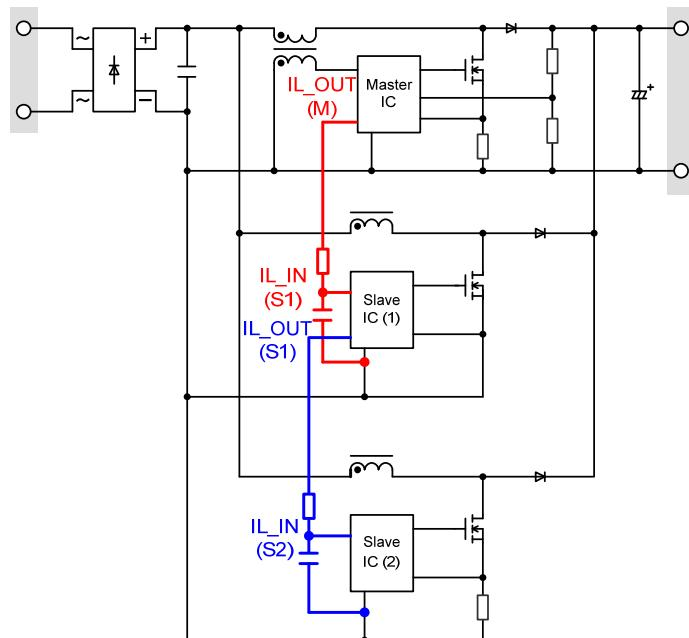

Fig. 8 Example of interleaved connection
As shown in Fig. 8, for multi-phase interleaving of three or more phases, the IL_OUT(S1) pin is connected to the IL_IN(S2) pin of the next slave IC.
- 1) The OUT (M) of the master IC outputs a Hi signal determined by the negative edge of the Z/C pin and the COMP pin voltage.
- 2) The IL_OUT(M) signal of the master IC is output in sync with the OUT(M) (waveform C and arrow 1).
- 3) The IL_OUT(M) signal of the master IC is input to the IL_IN(S1) pin of the slave IC via CR as shown in Fig. 8 (waveforms C and D and arrow 2).